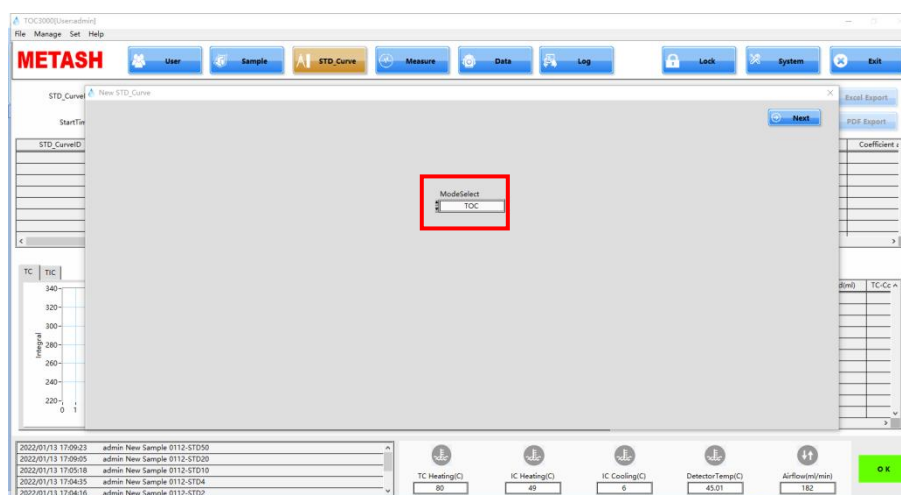
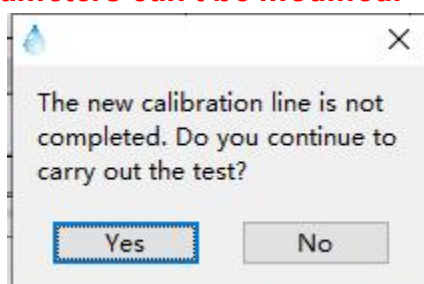

Fig 4.11
Fig 4.12
Step 3 Click  to enter 'New STD_Curve' interface. (Fig. 4.11).
Note: The system will give a reminder (Fig. 4.12) if there is any unfinished calibration curve measurement. Click 'No' or directly close the window will enter the interface (Fig. 4.11), and all data of previous measurements that unsaved will be deleted. If click 'Yes', system will return to the unfinished standard curve establishing interface to continue the measurement, the parameters can't be modified.